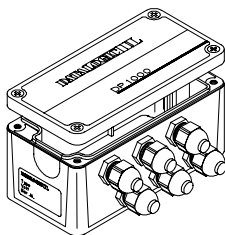

Figure 2.2 - Opening the DP1000
- 2) Unscrew the four screws as shown in figure 2.2 to open the decoder.